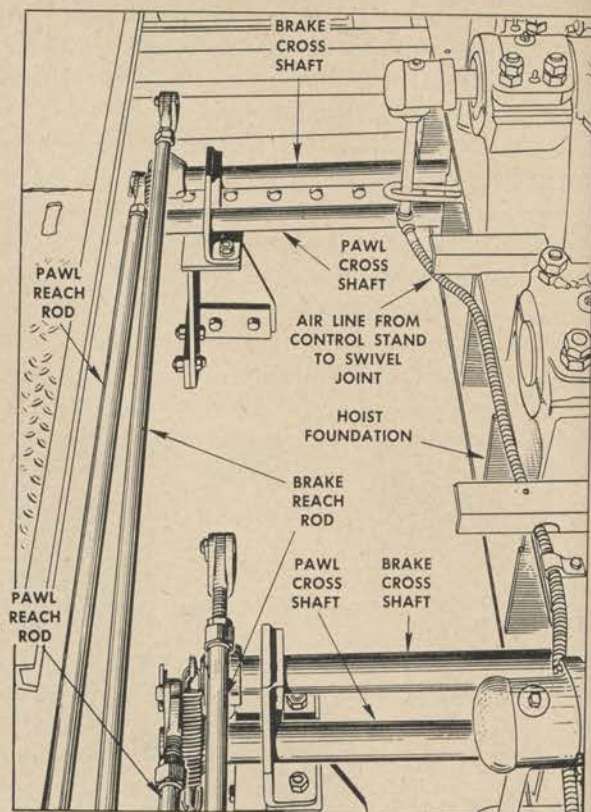

Figure 239. Brake and pawl linkage arrangement
c. **HOIST DRIVE BRAKING SYSTEM.** (1) *Description.* (a). A system of levers, reach rods, and cross shafts is used to transmit the motion of the brake foot pedals to the brake bands. The downward movement of each foot pedal results in pulling the movable end of the brake band tight around the brake drum. A spring returns the brake to the released position when pressure is removed from the brake pedal. The general arrangement of the reach rods and cross shafts of the brake and pawl linkages is shown in figure 239. The arrangement of the brake pedals on the control stands is shown in figure 61 and figure 62.